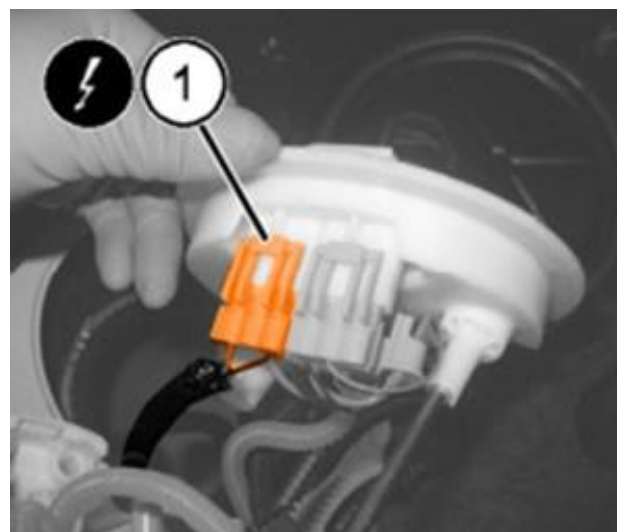

Figure 17 – Level Gauge Connector
15. Connect the wire harness connector (1) for the transfer chamber level gauge (Figure 17).